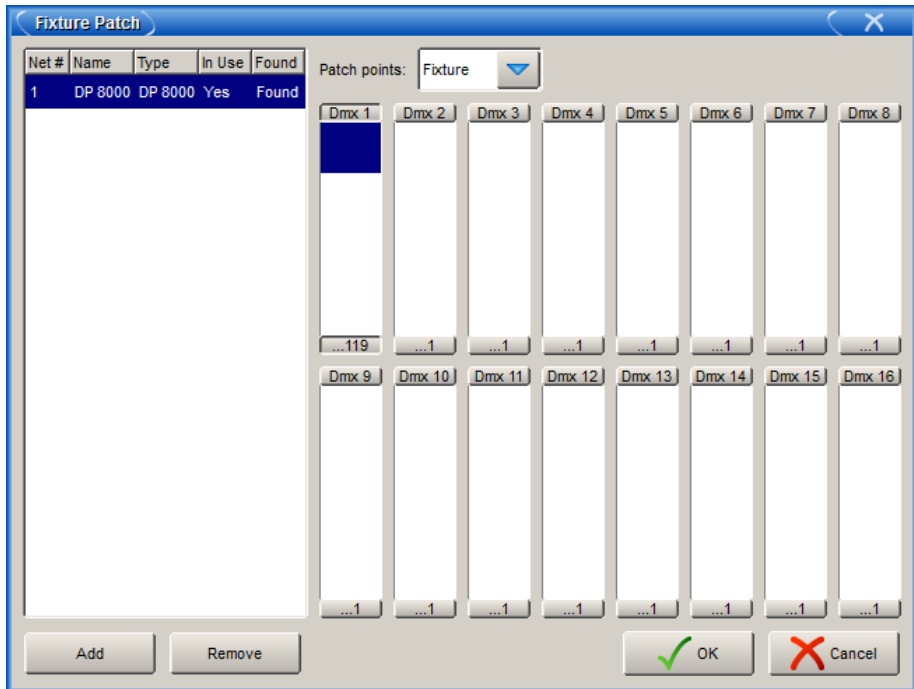

Figure 14.7. The Fixture Patch window
2. Select the fixture by clicking on it, then select Patch @ to open the Fixture Patch window. See *Figure 14.7, "The Fixture Patch window"*.